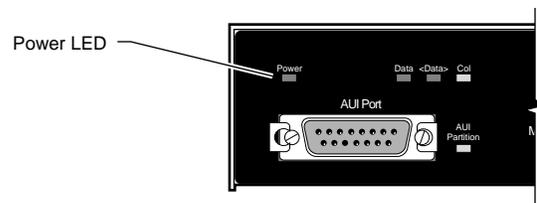

Figure 2-13. Power LED
6. Check the Power LED on the front panel (see Figure 2-13). If it does not light, contact the customer support department of the organization from which you purchased your Model 2800A.